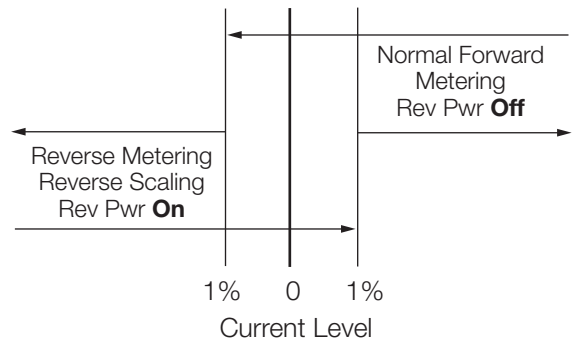

**Figure 6-3. Locked reverse mode operation.**
**OPERATION:** (Figure 6-3) Always operates in the reverse direction using the reverse settings at FC 51, FC 52, FC 53, FC 54, and FC 55. This allows operation down to zero current conditions since there is no reverse threshold involved. A safeguard has been built into the control to prevent misoperation in the event forward power flow does occur. If more than 2% (.004 A CT secondary) forward current occurs, the control idles on the last tap position held and the band edge indicators will turn off. As the current flow returns to a level above this forward threshold, normal reverse operation resumes.